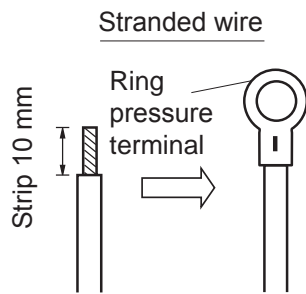

Fig. 5-3
1. Cut the wire end with cutting pliers, then strip the insulation to expose the stranded wiring about 10 mm and tightly twist the wire ends. (Fig. 5-3)